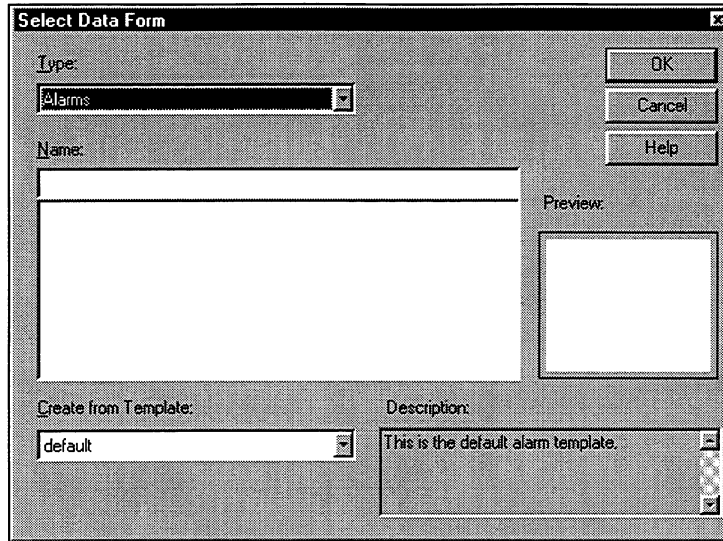

Figure 10-2. Select Data Form Dialog Box
1. Select the Data Editor command on the Tools menu or the Data Editor button. The Select Data Form dialog box opens, as shown in Figure 10-2.